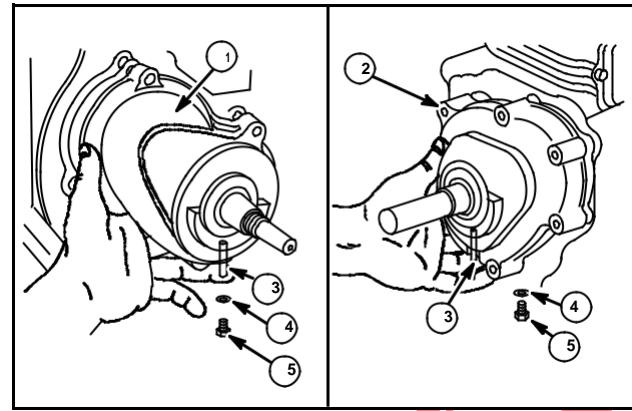

Fig. 5
1. Remove the timing hole screw (5) from flywheel cover (1) or PTO cover (2), Fig. 5.
2. Insert a short piece of 1/8" (3 mm) rod (3) through timing hole in cover and into machining hole in counterweight, Fig. 5. The rod holds the counterweight in the proper position while cover is installed on engine.